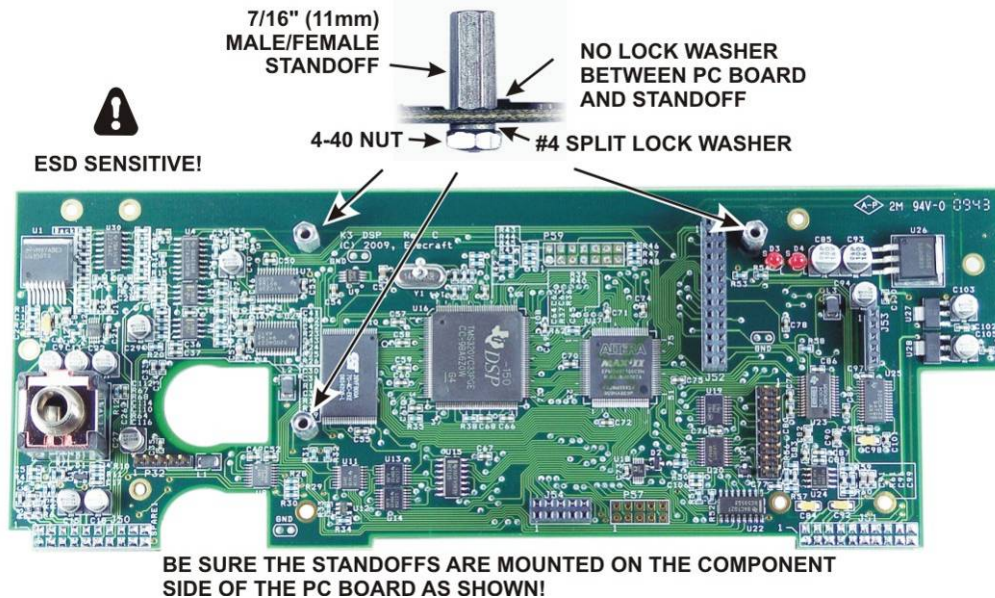

Figure 23. Installing Standoffs on the Main DSP Board.
□ Mount the three 7/16" (11mm) male/female standoffs on the component side of the *main* DSP board as shown in Figure 23 using 4-40 nuts and #4 split lock washers. Be sure that: